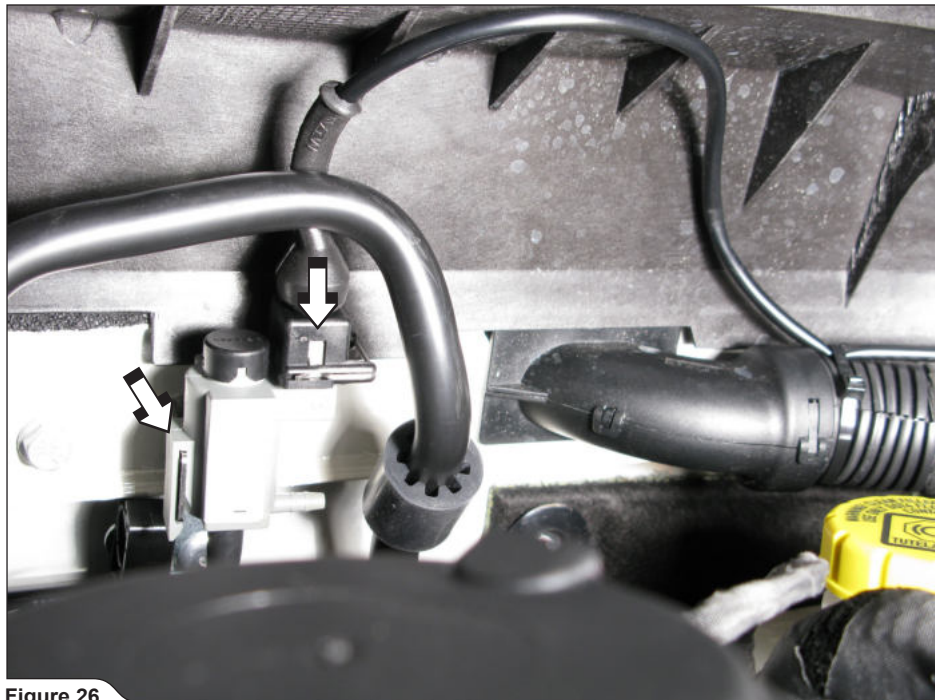

Figure 26
21. **For optional wireless kit only:** clip the electromagnetic valve onto the bracket and plug the transmitter's connector onto the valve (**Figure 26**).